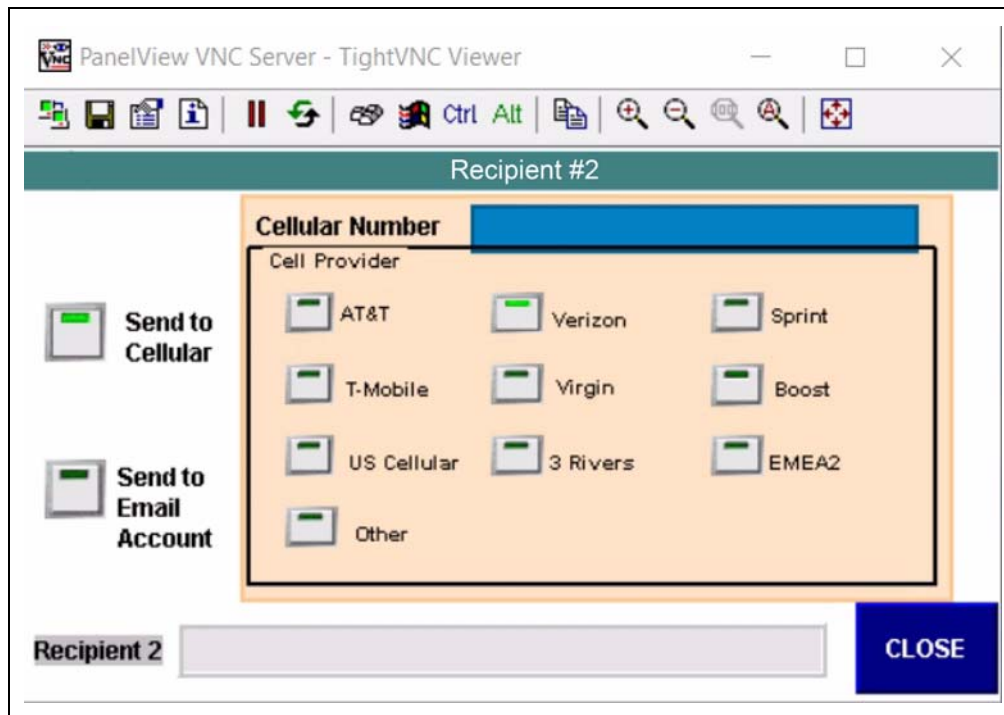

Figure 6E
4. Press Recipient 2 Setup. This will take you to the Recipient # 2 display. To send an email message, go to Step 5 on Page 34. To send a text, skip Step 7 on Page 35. (See Figure 6E.)